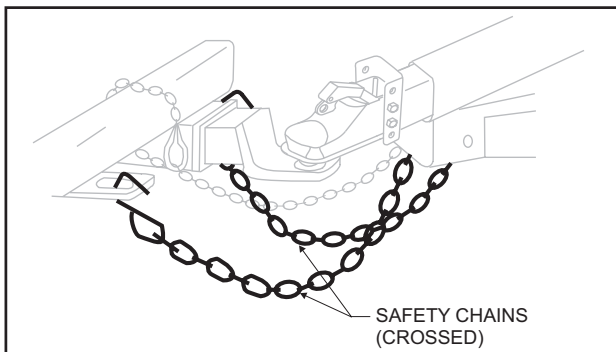

Figure 14. Safety Chain Arrangement for a Bumper Pull Trailer
- cross underneath the coupler (see Figure 14).